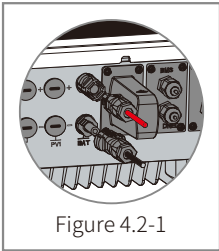

Figure 4.2-1
- **Battery connection:** Confirm the connection between BT and battery : polarities (+/-) are not reversed, refer to Figure 4.2-1